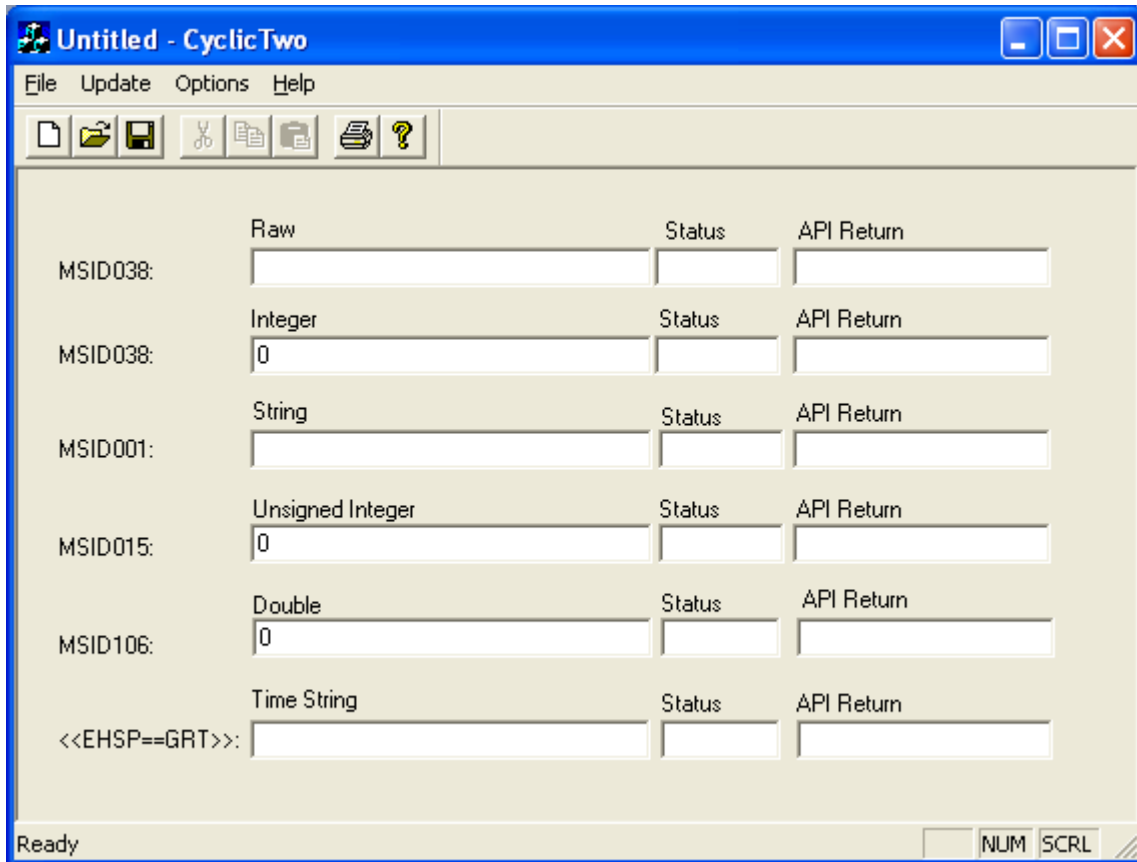

Figure 13 Cyclic Two Display
9. Go to the **Start** menu, select **TReK**, select **Examples**, select **Visual C++**, and select **Cyclic Two**. The Cyclic Two display as shown in Figure 13 will appear on your screen.